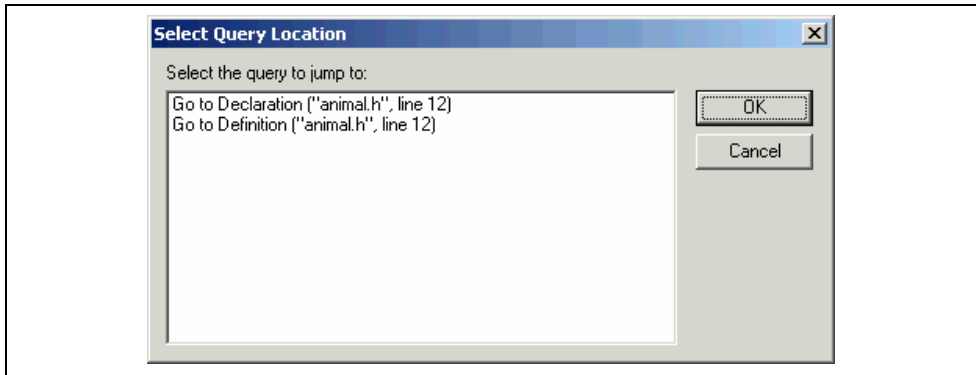

Figure 13.7 Select Query Location dialog
- Jump to definition on double click: By default this option is checked. If this option is switched off then a dialog is displayed which asks you where you wish to jump. You rather than HEW resolve the ambiguity. This dialog is shown in figure 13.7.